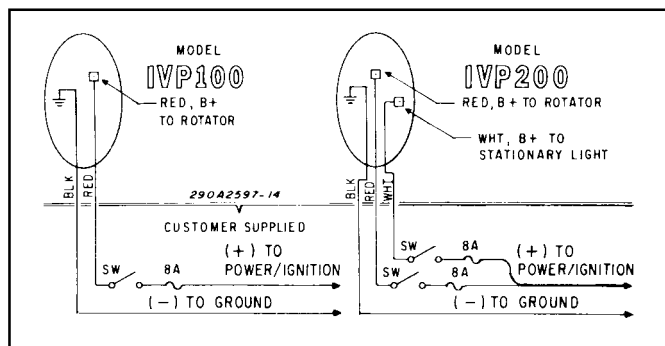

Figure 3.
B. For proper light operation, the light assembly control cables must be properly terminated inside the user-supplied control head. Using figure 3 as a guide, make the appropriate electrical connections. Ensure that the lines are adequately fused as shown in figure 3.
If control lines are combined for activation, calculate the total current requirement using the values shown in the appropriate diagram in figure 3.